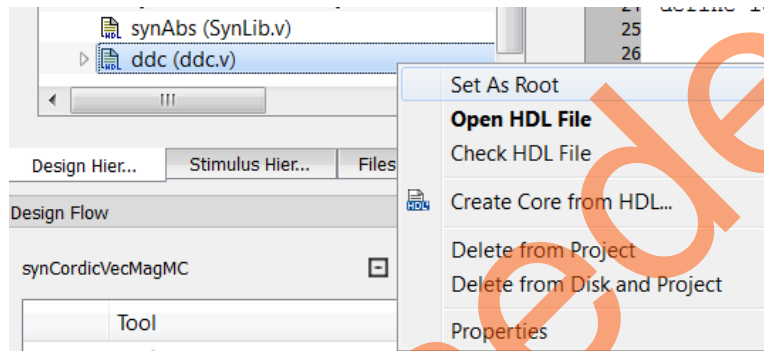

Figure 20. Set as Root
1. For a VHDL flow, on the **Design Hierarchy** tab, right-click **ddc.vhd** and select **Set As Root**, whereas for a Verilog flow, right-click **ddc.v** and select **Set As Root**, as shown in Figure 20.